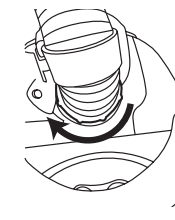

Fig. 3
- Connect and twist clockwise to secure proper hose connection. (Fig.3)